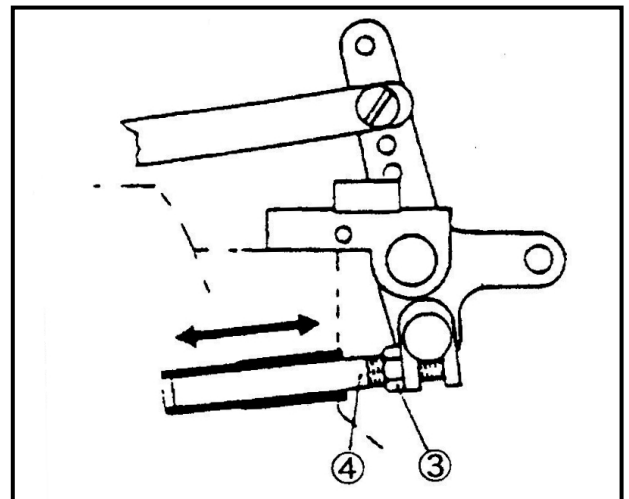

Fig.8
1. 放鬆螺母③。(Fig.8)
2. 移動抬壓腳停止插銷④或再調整外面間隙。
1. Loosen the lock nut ③ . (Fig.8)
2. Move the presser foot lifter stop plunger plunger ④ in or out to adjust the clearance.